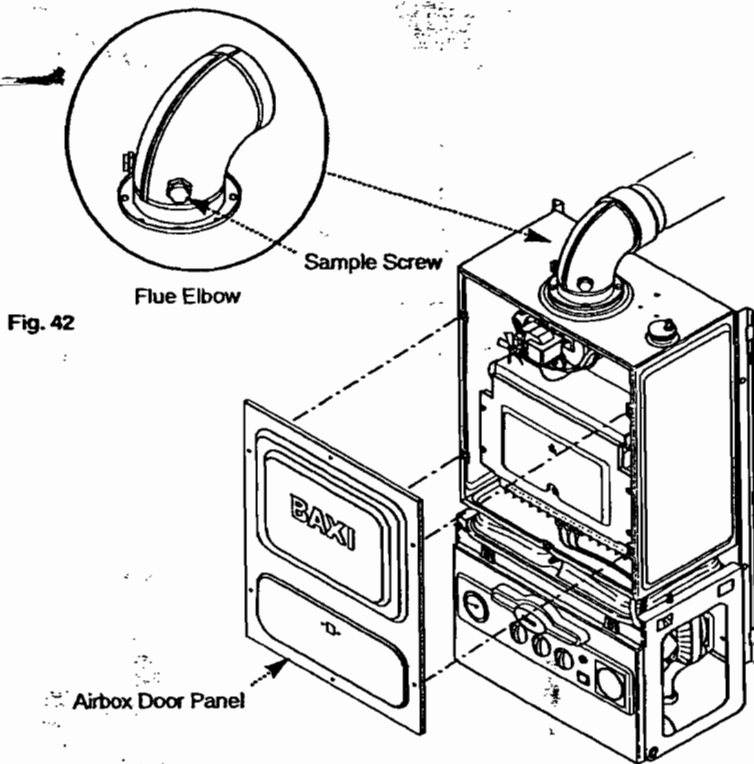

Fig. 43
6. Release the six 1/4 turn screws securing the airbox door panel and remove the door (Fig. 43).